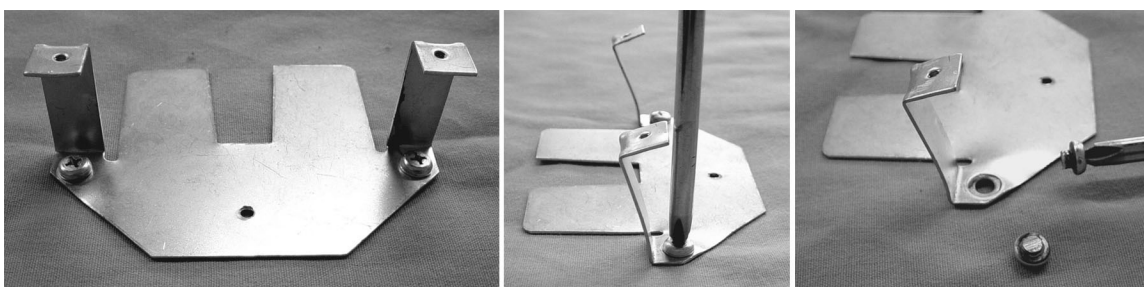

Figure 4
4. With the screw studs removed from the reflector plate, as shown in Figure 4 (left). Bend the 2 lens mounting tabs far enough back to access the screw heads clearly, as in Figure 4 (center). Using a #2 Philips screwdriver, start turning the screw head counter-clockwise until it is removed from the plate, as shown in Figure 4 (right). Then follow by passing the threading tap (10-32 or M5 X .8mm) through the hole to clean out any debris left behind. Repeat process for the other side.